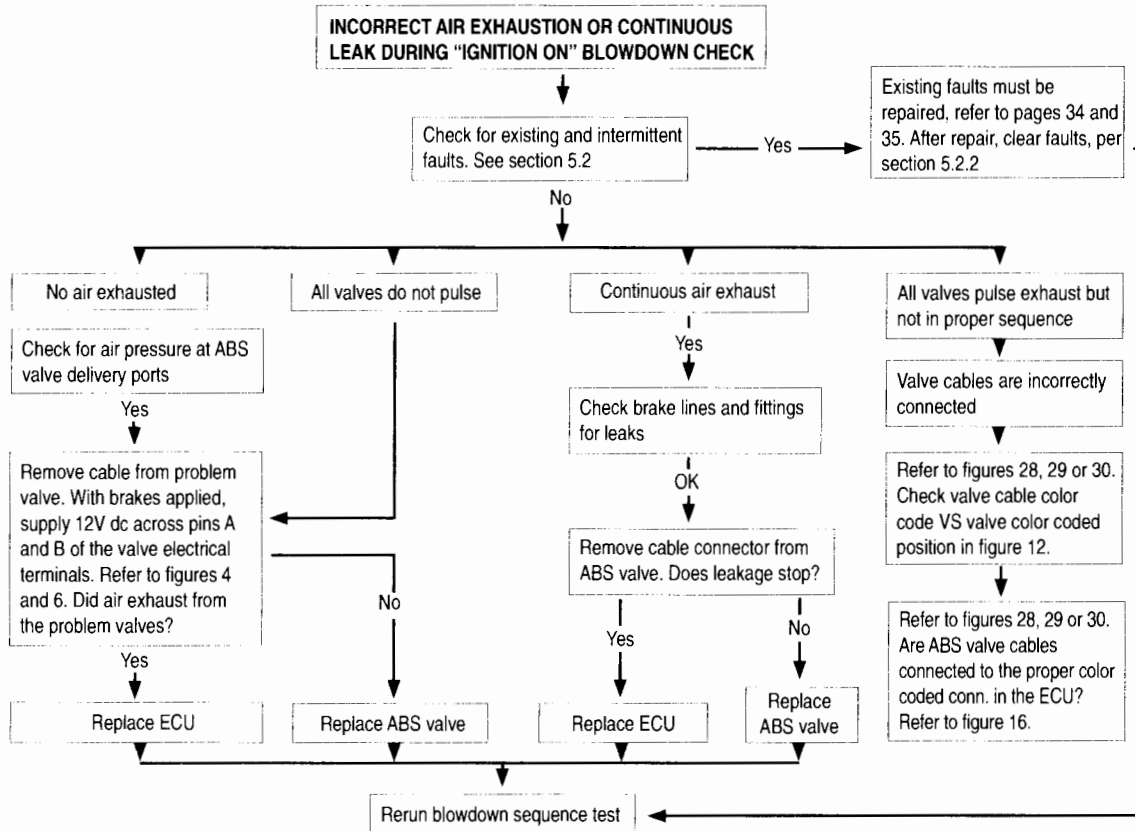

FIG. 25
- If the blowdown sequence is not correct, refer to figure 25 for troubleshooting procedures.